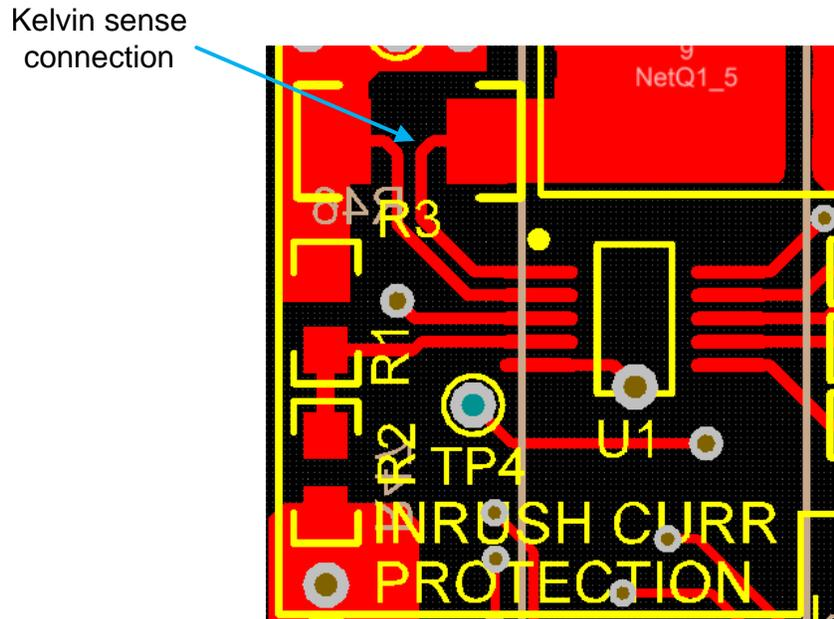

Figure 4. Kelvin Sense Connection for Sense Resistor
**NOTE:** The current sense resistor (R3) must be placed close to the LM5069. Make connections from R3 to the LM5069 using the Kelvin technique. Refer to Figure 4.